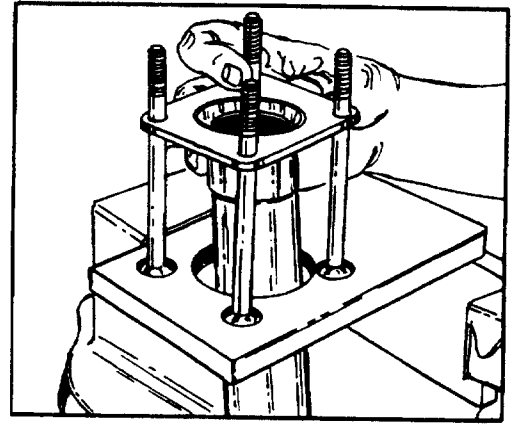

FIGURE 47.
3. Apply clean grease to bushing (38) and stack upper cover and jacket tube assembly (37) on the four bolts (40) with the jacket tube pointing down through the hole in the fixture. Make sure the square shoulder of the bolts engage the square holes in the upper cover. See figure 47.